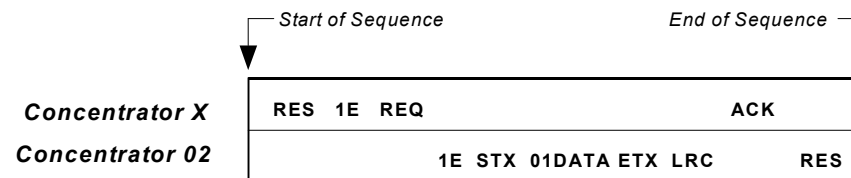

Figure 2-7 Concentrator to Concentrator Polling Sequence
**Second Poll Sequence.** When Concentrator 02 is polled by Concentrator X, Concentrator 02 responds by transmitting its hex poll character (1E), an STX, the decoder's multidrop address (01), then the decoder's data, shown in figure 2-7.